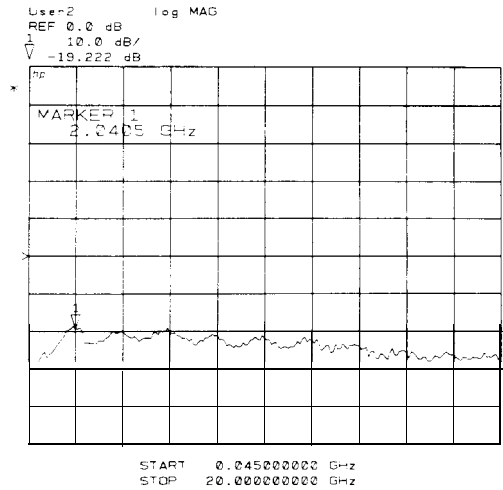
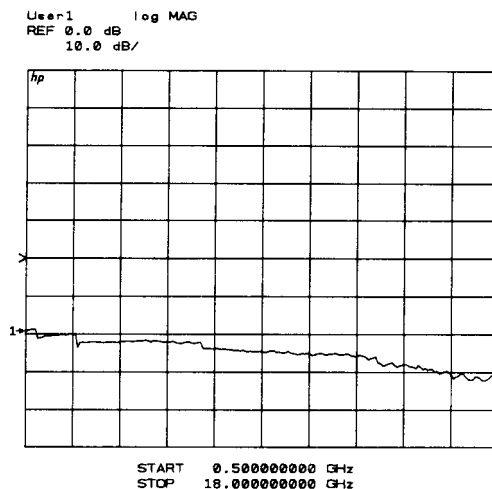

Figure 3-3. Typical Operator's Check CRT Power Level Trace
Figure 3-4. Typical Operator's Check CRT Power Level Trace
Plug in and turn on the test set (it should not be connected to any other instrument or device now). The line LED should light immediately and the active LED should light in about two seconds. Those indications mean that the instrument has passed its self-test. Turn off the test set and connect it to the HP8510 system as shown in Figure 3-3. Turn on all of the system instruments, network analyzer last. Let the instruments complete their self-tests.
- b. **HP 8350B** systems: press **[SWEEP TIME] [2] [0] [0] [k/m]** to set the sweep time to 200 ms. In narrow band systems, the level of the frequency band generated should match the levels shown in Figure 3-3 for a given frequency.
The b, and b2 traces should resemble Figure 3-3. The a, and a2 traces should resemble Figure 3-4.
5. Press PARAMETER [MENU] [USER 4 b1] [REDEFINE PARAMETER] [DRIVE] [PORT 2] [PHASELOCK] [a2] [REDEFINE DONE] to observe the b1 thru power level trace. The trace should resemble Figure 3-4.
6. Leave the thru connection of step 4 connected. Press PARAMETER [MENU] [USER 2 b2] [REDEFINE PARAMETER] [DRIVE] [PORT 1] [PHASELOCK] [a1] [REDEFINE DONE] to observe the b2 power level trace. The trace should resemble Figure 3-4.
3. Press [USER 4 b1] to observe the b1 power level trace. The trace should resemble Figure 3-3.
5. Press PARAMETER [MENU] [USER 2 b2] [REDEFINE PARAMETER] [DRIVE] [PORT 1] [PHASELOCK] [a1] [REDEFINE DONE] to observe the b2 power level trace. The trace should resemble Figure 3-4.